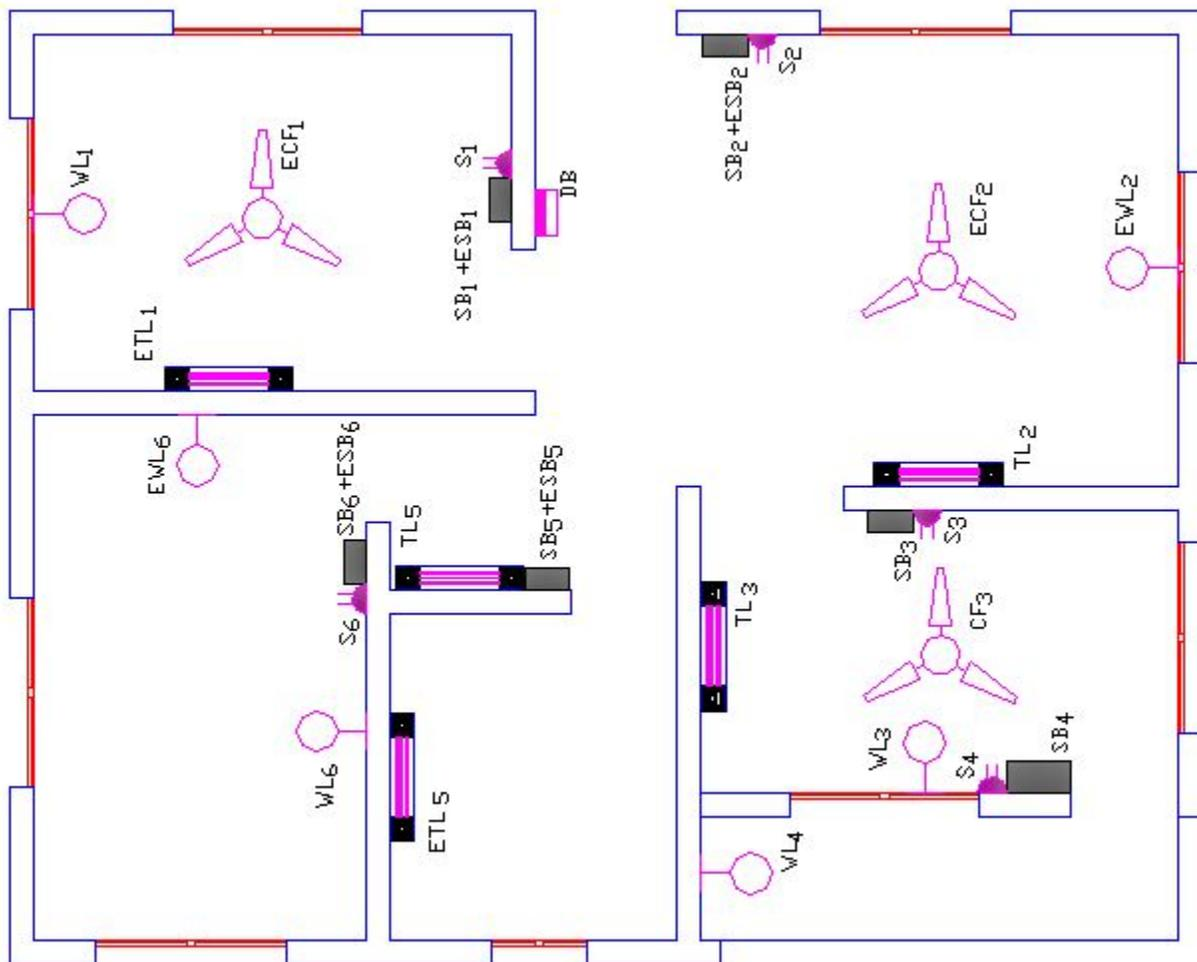

Fig. 7.1: Symbols inserted in the 25'00''x20'00'' flat
- Insert FAN.dwg and make 4 copies. Put them in 2 bedrooms and dining room as shown in Figure.7.1.